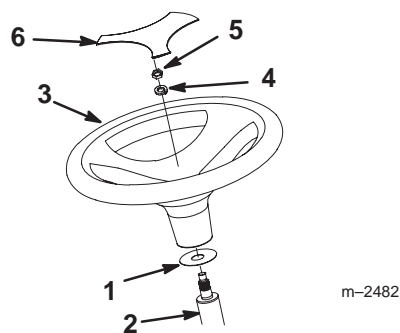

Figure 7
1. Install the boot washer onto the steering shaft (Fig. 7).
2. Remove the plastic trim cover from the steering wheel (Fig. 7)
3. Install the steering wheel onto the shaft, carefully aligning the splines (Fig. 7).
4. Secure the steering wheel to the shaft with a lock washer and nut (Fig. 7).